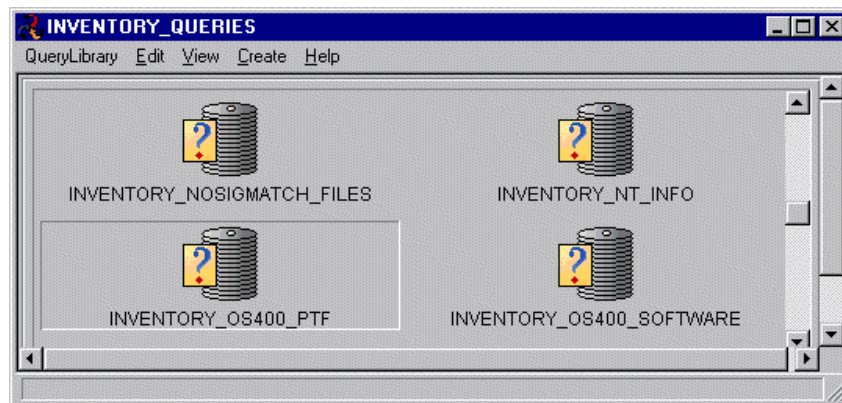

Figure 327. AS/400 PTF query
3. When this command has completed, you should have a new query in your `INVENTORY_QUERIES` library called `INVENTORY_OS400_PTF` as shown in Figure 327.